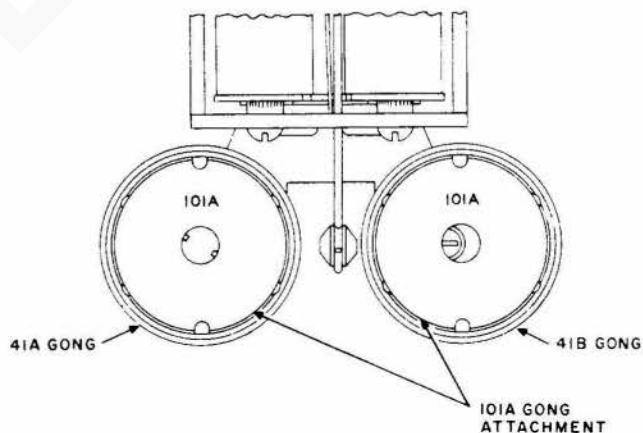

Fig. 4—101A Gong Attachment on B-Type Ringer
- (1) Remove screw and lockwasher attaching gong.
- (2) Place gong attachment shell next to gong with triangular openings in line with the clapper.
- (3) Replace screw, lockwasher, and flat washer (furnished with gong attachment).
- (4) Adjust gongs for proper clapper clearance (see 2.05).
- (5) Tighten gong mounting screw, ensuring that the attachment shell does not touch the gong.
- (6) Place the attachment cover on the shell and bend tabs over cover as shown in Fig. 4.